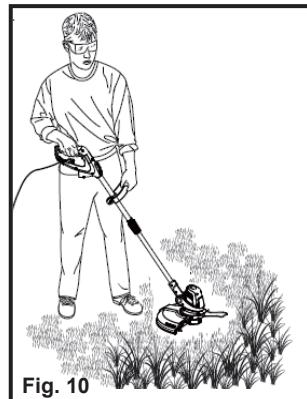

Fig. 10
1. Hold the grass trimmer. Gently swing the trimmer from side to side (Fig. 10).